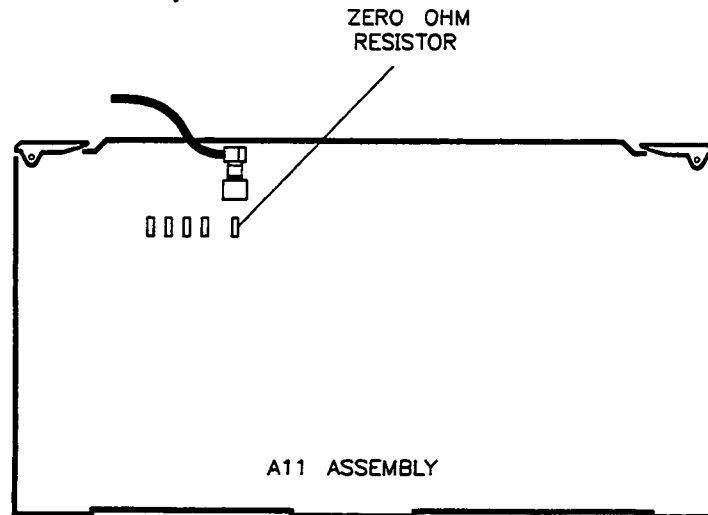

Figure 3-42. FM Input Impedance Jumper Locations
4. Locate the zero ohm resistor shown in Figure 3-42. The FM input impedance is factory-set to the 50 ohm position. To change it to 600 ohms, remove the resistor from the A11 assembly by unsoldering it. The FM input impedance can be reset to 50 ohms by soldering the resistor back into the A11 assembly.